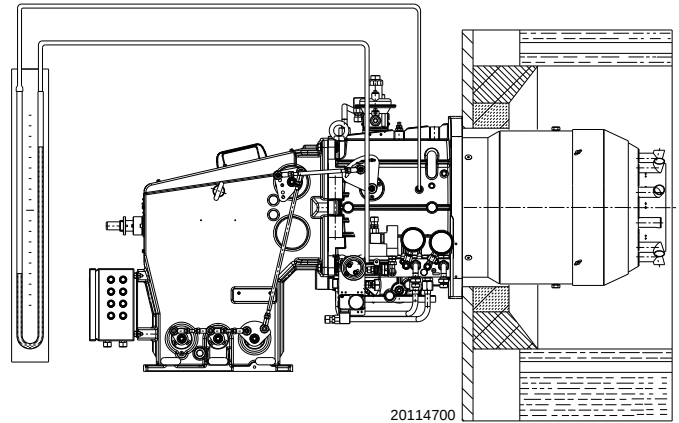

Fig. 37
- Fit a U-type pressure gauge or a differential pressure gauge (Fig. 37), with socket (+) on the gas pressure of the pipe coupling and (-) in the combustion chamber. The manometer readings are used to calculate MAX burner output.
The arrival of the gas at the pipe coupling is shown on the U-shaped pressure gauge (Fig. 37) or else with the help of a digital pressure gauge on the pressure test point under the pipe coupling.